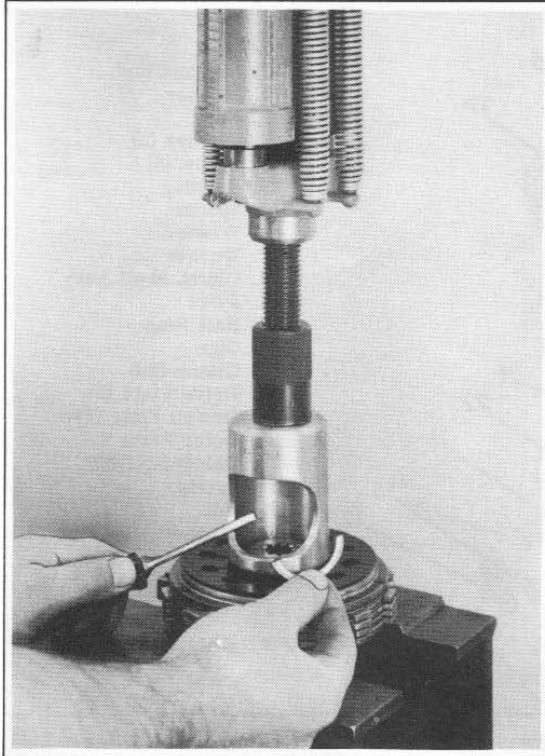

Figure 4.6. Removing Clutch Half-Rings
Disassembly of clutch hub assembly requires Harley-Davidson tool, Part No. 97353-74P, and a press. This assembly comes apart by removing both half-rings (15) from ring slot in clutch hub assembly (17) as shown in Figure 4.6. As shown in figure, press down on clutch spring (22) until half-rings (15) are loose and can be removed. With half-rings (15) removed from hub (17), the parts making up the clutch plate assembly can be separated simply by unstacking all the parts.
As a final step in disassembling, separate clutch releasing disc (21) from clutch hub (17) by removing half rings (15) as follows. Place above assembled parts into hydraulic press with clutch spring (22) facing up. Using tool, Part No. 97353-74P, compress spring (22) and remove half rings (15) as shown in Figure 4.6.